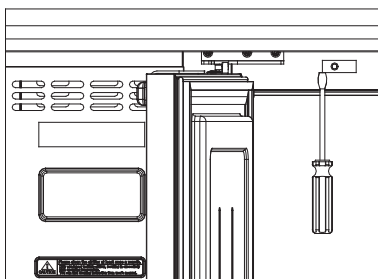

Fig 9-22
4. Lift up the corner of the switch using appropriate tools. (Fig 9-22)